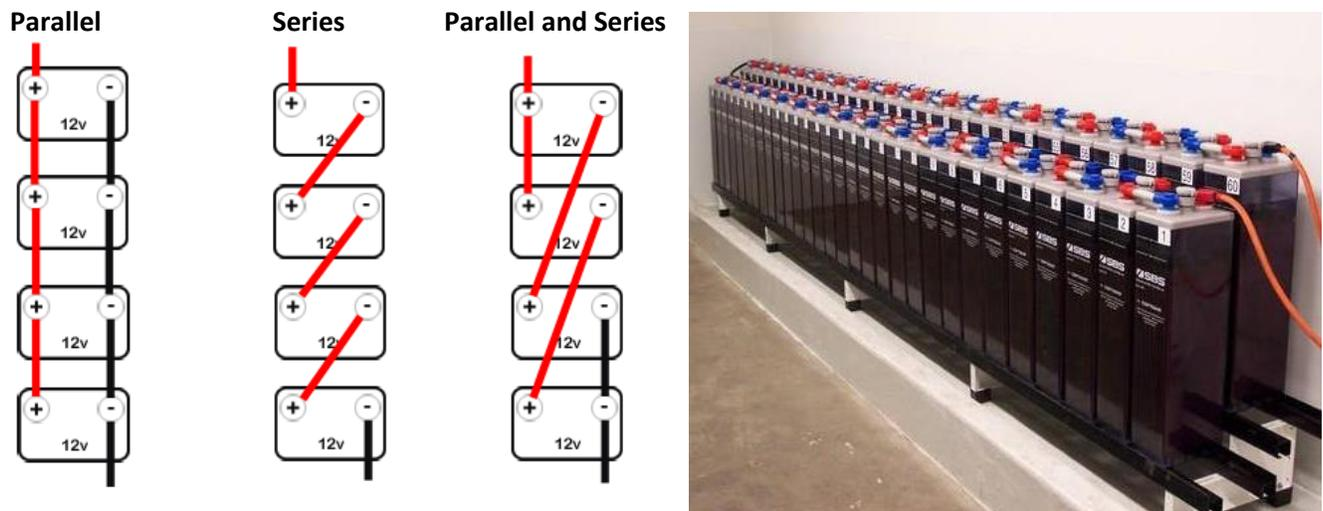

Figure 3.4: Connecting Cells to make a Battery
- 3-26 To produce a battery with a greater current capacity, the negative (-) terminals of all the cells should be connected together. All the positive (+) terminals should also be connected together. These connections are shown by the diagram at the far left in Figure 3.4. Cells connected in this way are said to be connected in **parallel**. The potential difference of the battery is the same as the potential difference of a single cell.
- 3-27 To increase potential difference, the positive electrode of one cell is connected to the negative electrode of the next, as shown by the center diagram in Figure 3.4. These cells are said to be connected in **series**.
- 3-28 Both the potential difference and the current capacity can be increased by connecting the cells as shown by the diagram at the far right in Figure 3.4. In this arrangement, groups of cells are first connected in *series* to provide the desired potential difference in each group. Then the groups are connected in *parallel* to provide a battery with the desired current capacity. The photograph in Figure 3.4 shows a large battery with the cells connected in this way.